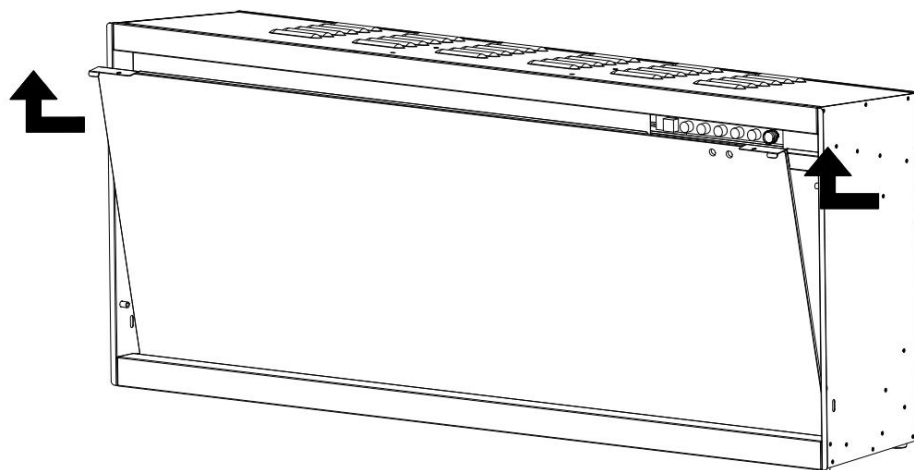

Fig. 2-3
D. Carefully lift the front glass up and away from the appliance. Place it face down on a soft, non-abrasive surface. (Fig. 2-3)